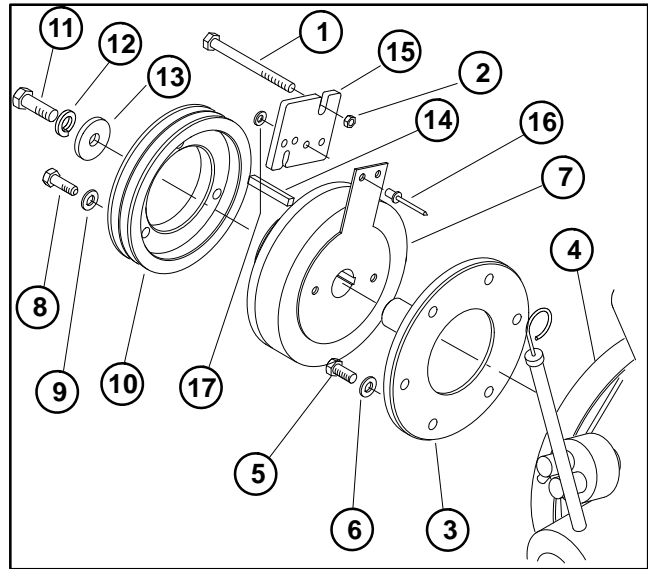
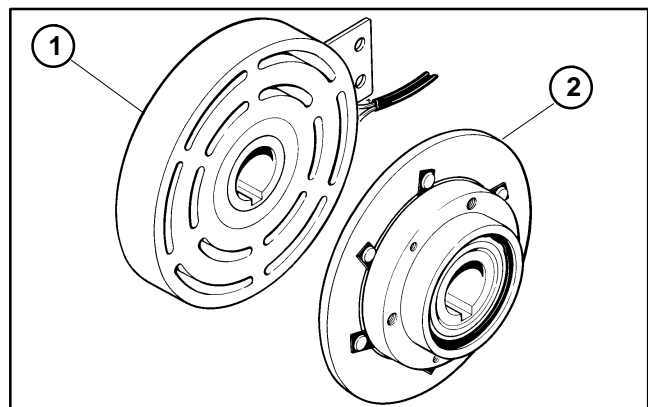

Figure 30
Figure 31
7. Remove long capscrew with the jam nut from engine block. Retain the position of the jam nut on the capscrew (Fig. 30).
8. Remove the spindle with the clutch attached by alternately loosening all spindle capscrews and then pulling on the clutch (Fig. 30). When the spindle is free of the fly wheel, slide it up along the flywheel and rotate it out to clear the traction pedal and foot rest.
9. Remove the capscrews, lock washers, and pulley from the clutch (Fig. 30).
10. Remove the capscrew, lockwasher, and flat washer from the spindle. Slide the clutch and key from the clutch spindle (Fig. 30).
1. When installing a new clutch, remove the wire bracket from the old clutch and install it with the flat washers and new pop rivets on the new clutch. Run the wires through the bracket and tie wrap to them to the bracket as on the original clutch. **Make sure wires are tight against the clutch wire bracket or they will catch in the spindle bolts** (Fig. 30).
2. Make sure the spindle is free of dirt and rust. Insert the capscrews with flat washers through the spindle base from the shaft side (Fig. 30).
3. Apply never seize to the spindle shaft and keyway. Slide the clutch rotor (Fig. 31) onto the spindle shaft with the bracket side towards the spindle base (Fig. 30). Make sure that the capscrews with the flat washers stay in the spindle holes.
4. Apply never seize to the key. Insert the key into the keyway. Slide the armature (Fig. 31) onto the shaft and key (Fig. 30).
5. Place the the capscrews through the lock washers and secure the pulley to the clutch. Place the lock washer and large flat washer onto the capscrew and secure them to the shaft; torque from 40 to 50 ft-lb (Fig. 30).
6. Place the clutch and spindle up to the flywheel. Screw one of the capscrews into the flywheel to support the spindle during alignment. Secure all the capscrews while pushing the spindle into the flywheel; tighten in a crisscross pattern (Fig. 30).
7. Align the wire bracket with the long capscrew into their original position. Secure the long capscrew and jam nut through the bracket into the engine block (Fig. 30).